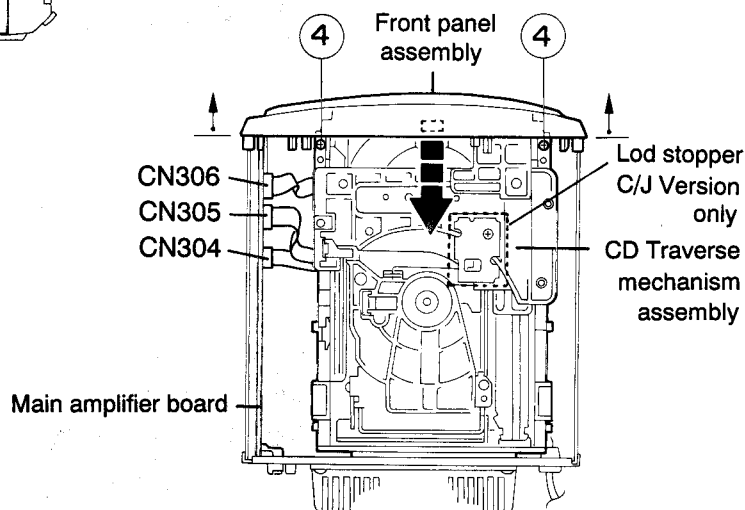

Fig. 5-3
3. Remove the two screws ④ fastening the CD traverse mechanism assembly to the top panel of the main unit. (See Fig. 5-3)
4. Disconnect the card wires connected to the CD traverse mechanism assembly from connectors CN304, CN305 and CN306 on the main amplifier board on the right side of the main unit. (See Fig. 5-3)
6. Tilt the front panel assembly slightly forward and remove the CD traverse mechanism assembly from the front panel assembly by shifting in the direction of the arrow and lifting upward. (See Fig. 5-3)